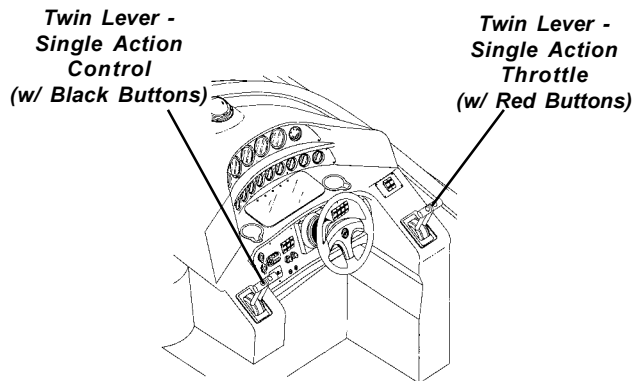

Figure A1: 348V Helm Station
1. Move the twin lever shifter to the neutral detent position. Place the twin lever throttle levers in the idle position. See Figure A1. When in the neutral detent, the detent buttons will click into place. To move the levers to the desired positions after starting you simply push or pull the shifter and throttle levers. The buttons are color coded. Black buttons represent the shifter and red buttons represent the throttles.